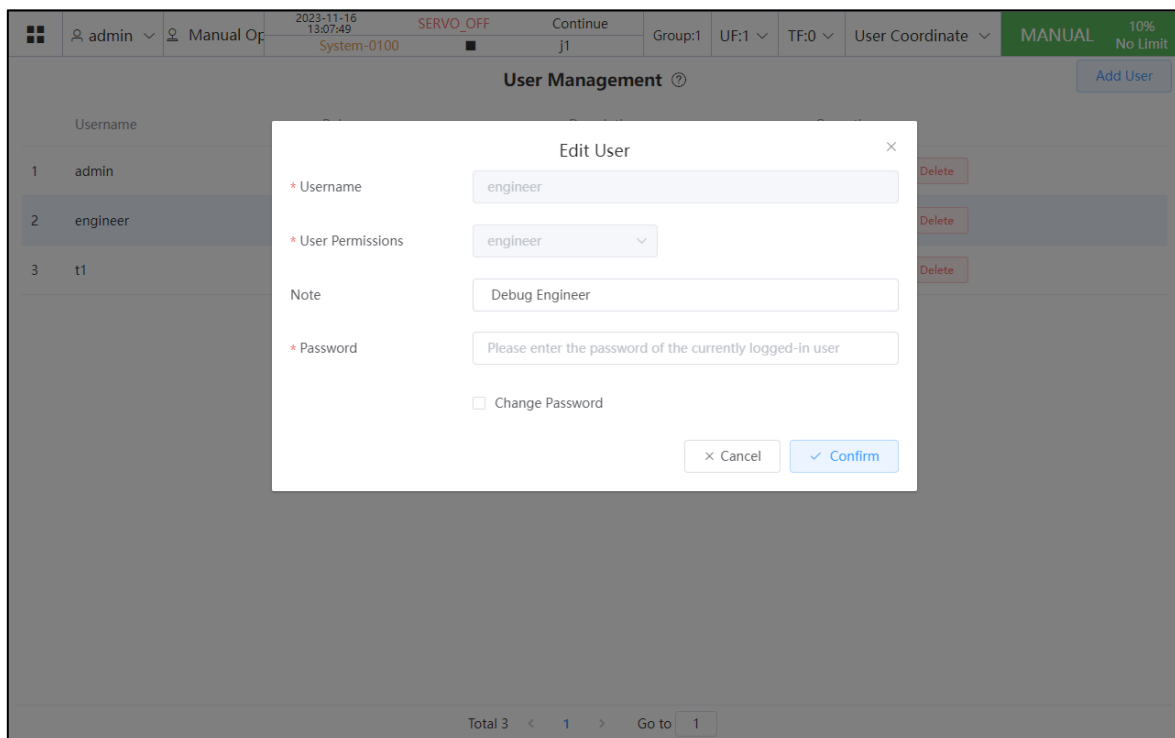

Fig. 2.55 "Edit User" Interface
- Click "Edit" after the engineer to enter the "Edit User" interface, as shown in Fig. 2.55.